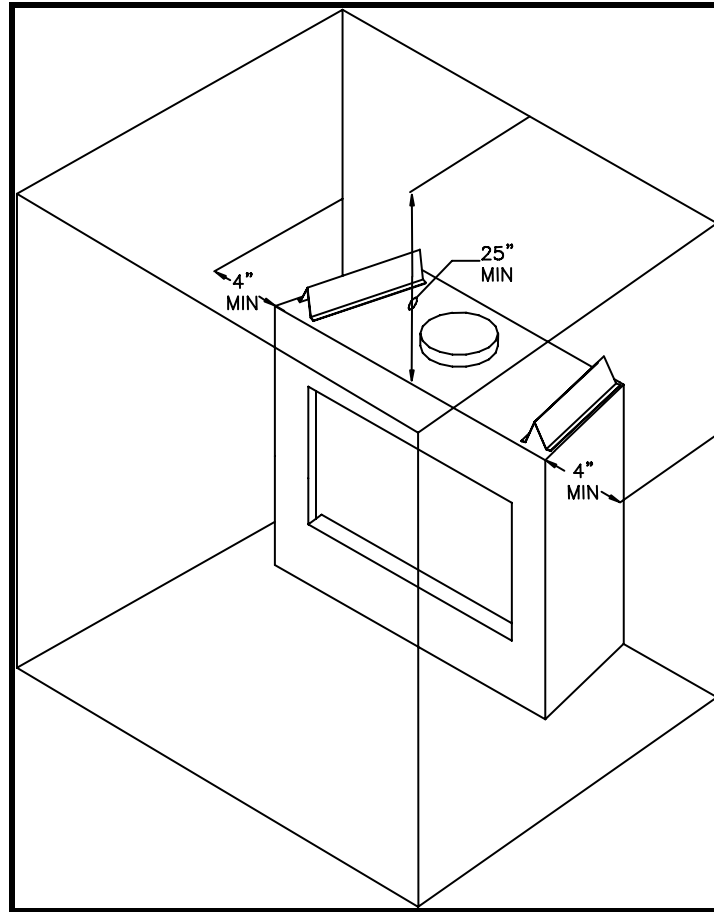

**Figure 2: Fireplace Locations and Minimum Clearance Requirements**
- This fireplace may be installed along a wall, across a corner, or use an exterior chase. Refer to Figure 2 on page 6 for suggested locations.